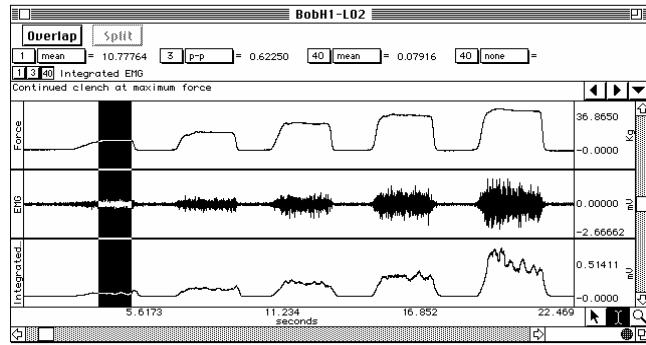

Fig. 2.11 Plateau of first clench selected
The first data segment was the recording before the first marker. See Fig. 2.11.
- Use the **I-Beam** cursor to select an area on the plateau phase of the first clench (Fig. 2.11).